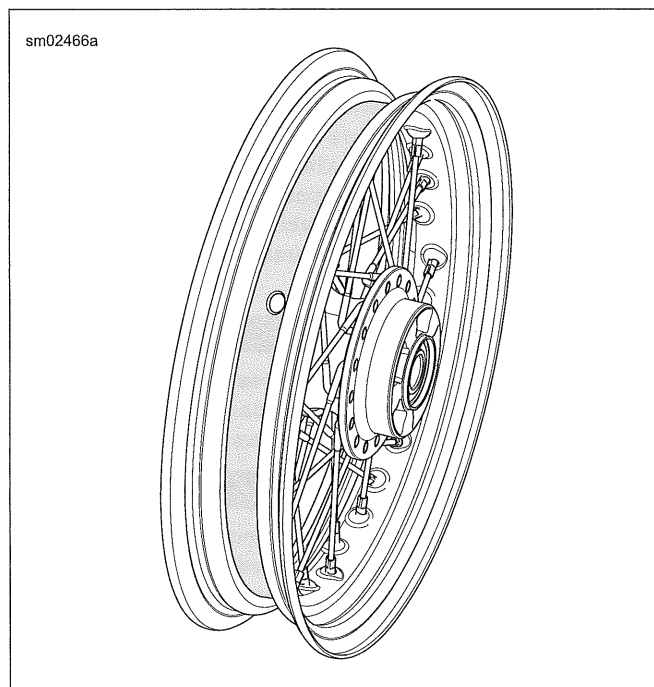

Figure 3-26. Installed Rim Strip
1. See Figure 3-26. **Tube-type laced wheels:**